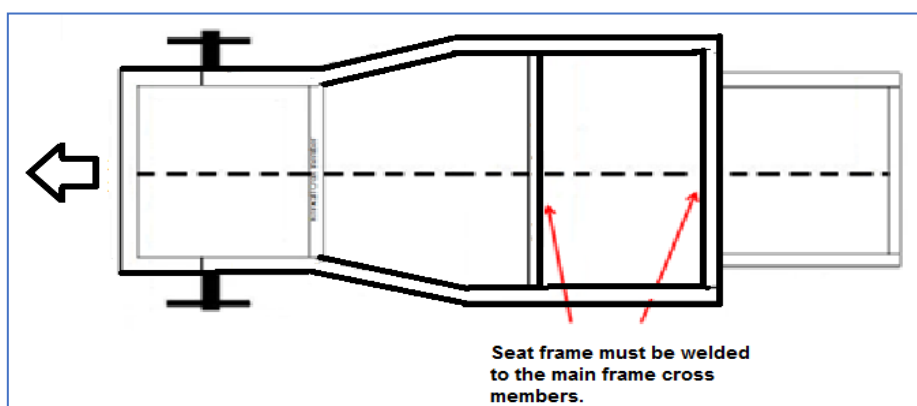

Figure 13
**20.3** Seat must be mounted to a seat frame that is welded to the race-car main frame structure (*Figure 13*). Seats must be mounted to the seat frame as per the manufacturers' instructions, using materials recommended by the manufacturer.